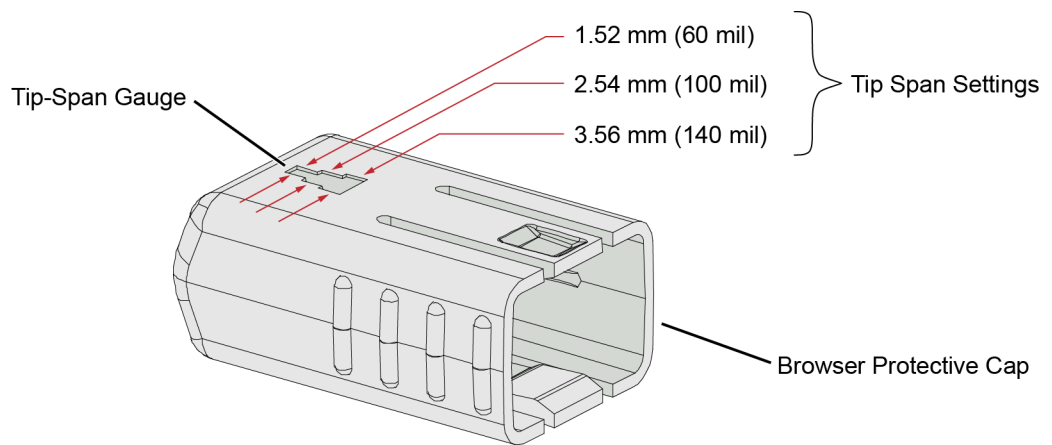

Figure 37 Tip Span Gauge on Browser Protective Cap
- 2 Locate the tip-span gauge on the browser's protective cap as shown in **Figure 37**.